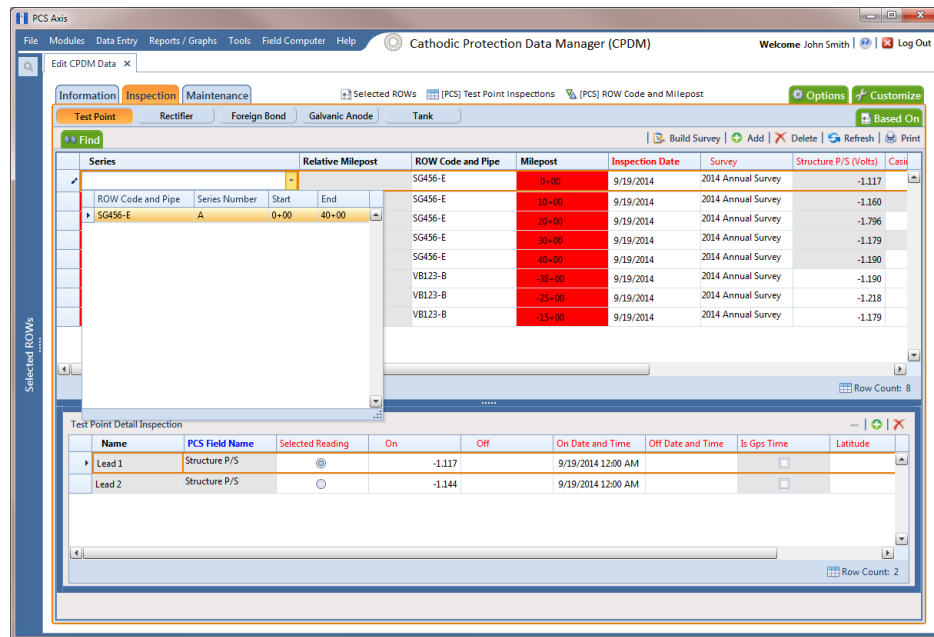

Figure 3-75. Pipeline Series
- 12 Open the data entry grid with the mileposts you want to apply pipeline *Series*, such as the *Test Point Inspection* data grid shown in the next example (Figure 3-75, page 126).